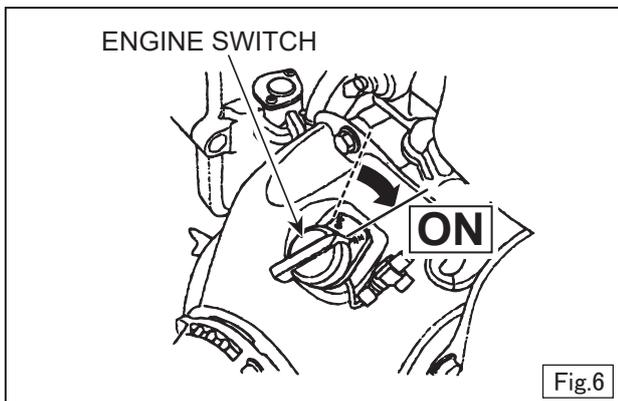

Fig.6
2. Turn on the engine switch on. (Fig.6)